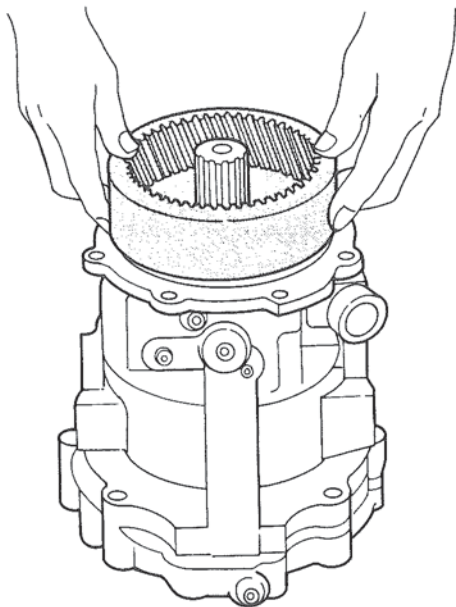

Figure 18. Assembling Ring Gear Assembly.
4. Install the parts assembled in steps 3 and 4, locating the hub of the stationary gear plate in the bearing pilot bore of the reduction unit adapter. Figure 18.